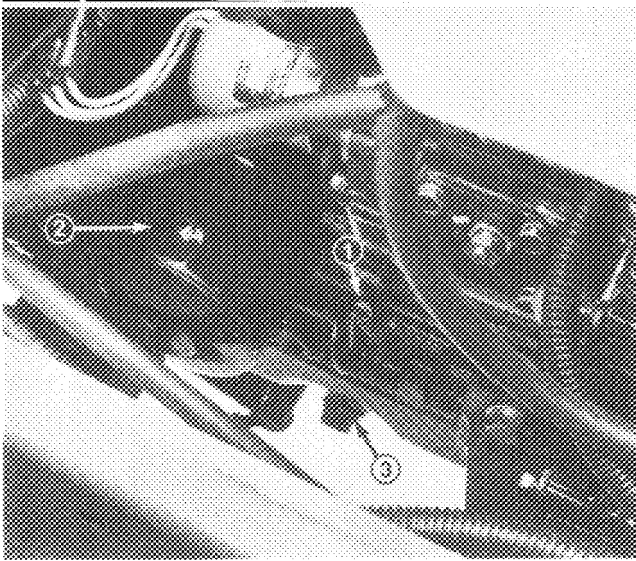
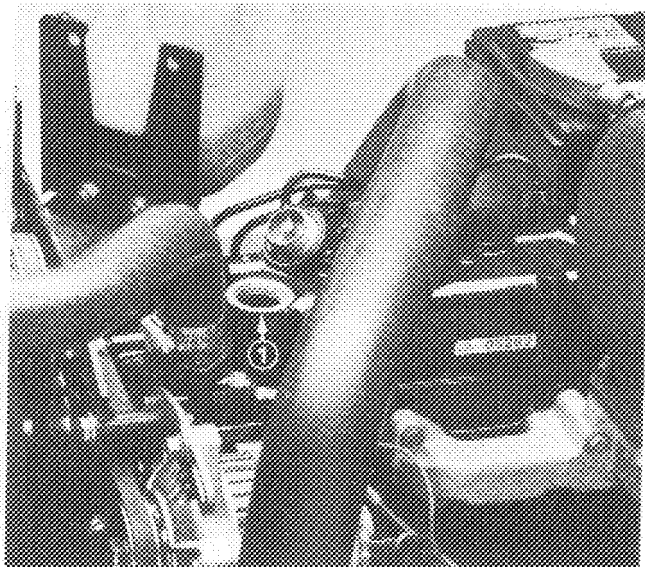

Figure 13
Figure 14
3. Remove dipstick and wipe it with a clean rag. Insert dipstick into the tube and make sure it is seated fully. Remove dipstick and check level of oil (Fig. 13). If oil level is low, add enough oil to raise level to FULL mark on dipstick. Do not overfill (Fig. 14).